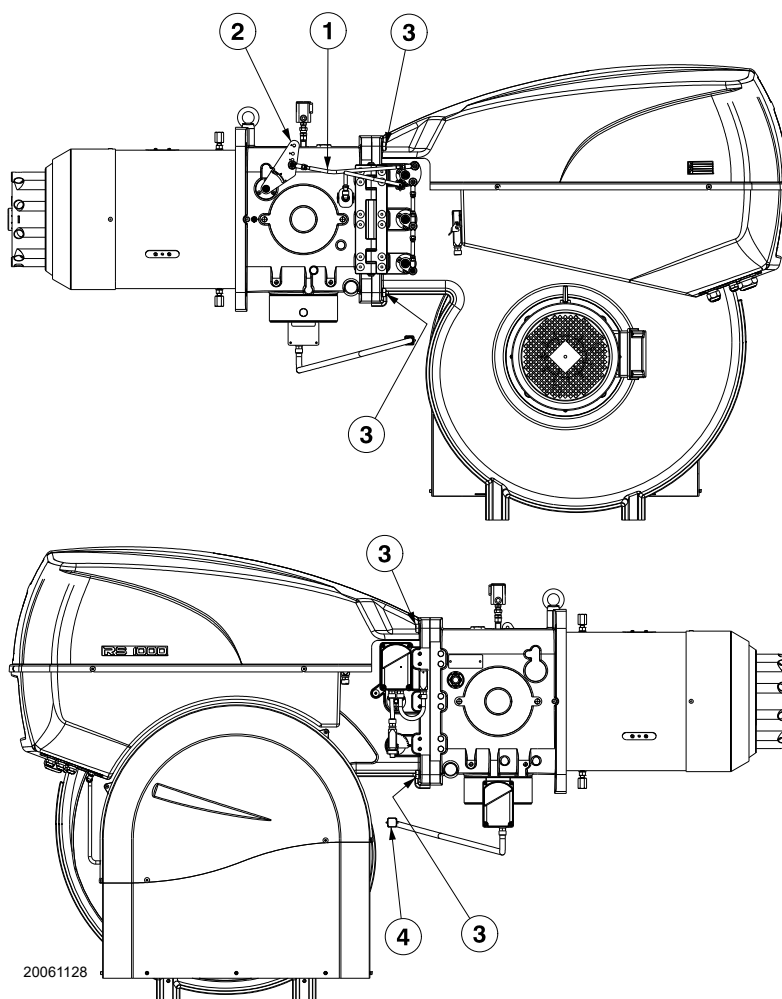

Fig. 36
- Remove the tie-rod 1)(Fig. 36) of the head movement lever, undoing the nut 2);